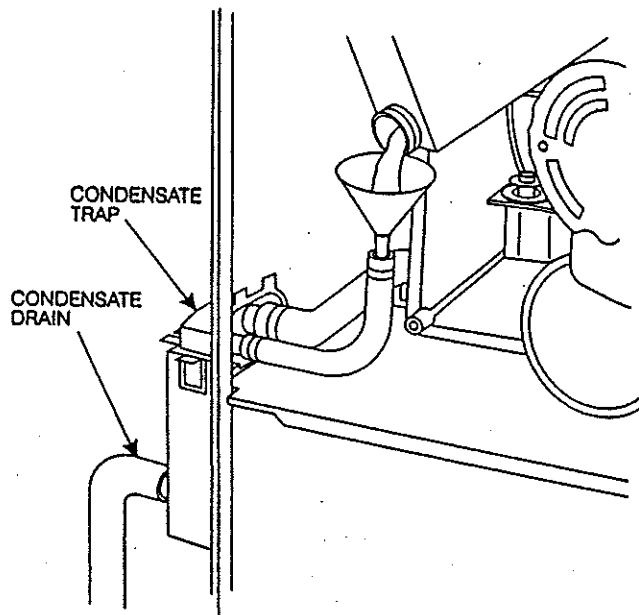

Fig. 42 - Filling Condensate Trap
- Insert funnel into tube and pour 1 quart of water into tube. This should overflow the trap and flow into an open drain (See Fig. 42)
- (1) Remove burner enclosure front and caps that conceal adjustment screws for gas valve regulators. (See Fig. 42)